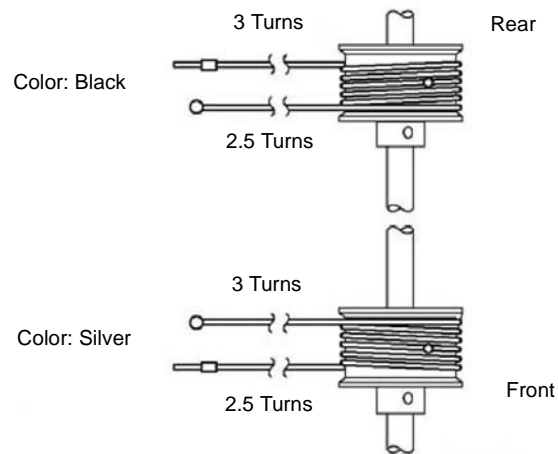

Figure 9 Cable arrangement
4. Figure 9 shows the correct arrangement of the cables, front and rear.